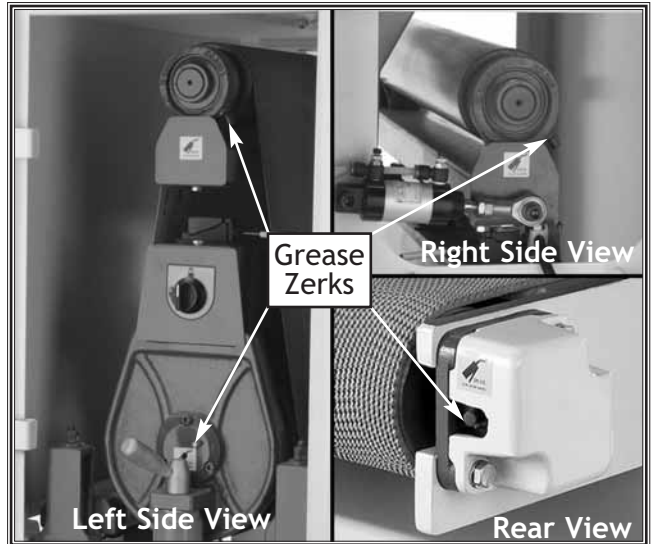

Figure 31. Grease zerk locations.
- After 150 hours of use lubricate the bearings with one squirt of automotive-grade grease at the designated points, see **Figure 31**.